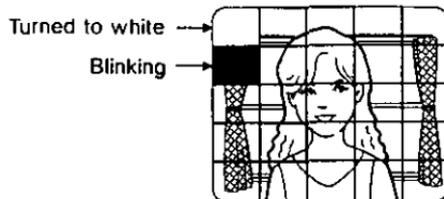

Fig. 64
- To mask other areas, move the cursor to the desired area by using the Up Switch (^) (10), Down Switch (V) (7), Left Switch (<) (9) or Right Switch (>) (8). The previous masked area then stops blinking and turns to white as shown in Fig. 64.